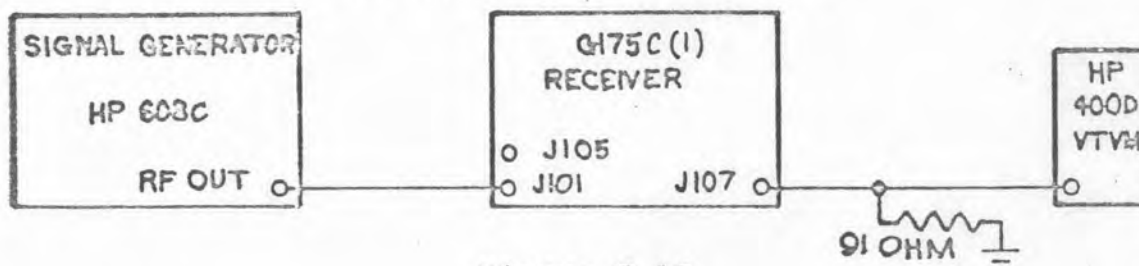

Figure 5-18
- a. Connect equipment as shown in figure 5-18.
a. Connect equipment as shown in figure 5-18 except transfer connections at J101 to J105.